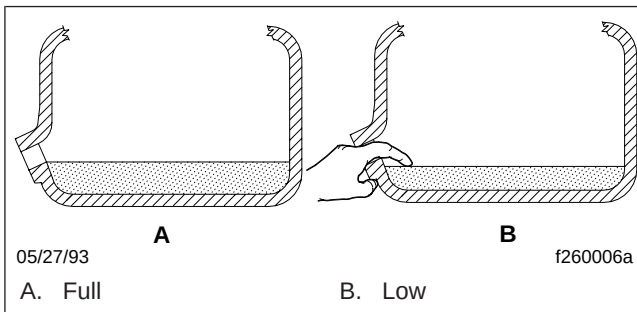

Fig. 1, Checking Transmission Fluid Level
6. Add fluid until it is level with the lower edge of the fill opening. See Fig. 1. If the transmission has two fill openings, add fluid to the level of both openings. See Table 1 for approved transmission lubricants. See Table 2 for Eaton® Fuller® transmission lubricant capacities and Table 3 for Meritor transmission lubricant capacities.